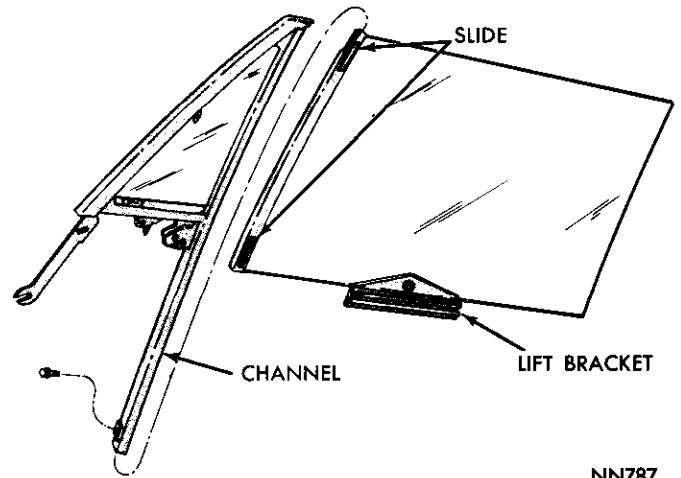

Fig. 45—Door and Vent Glass Assembly—Hardtop—Convertible
- (1) Install lift bracket assembly and weatherstrip and guide on the door glass.
- (2) Assemble door glass and frame to vent wing division bar (Figs. 45 and 46).
- (3) Lubricate slide area of lift bracket guide.
- (4) With regulator in down position, install door glass and vent wing assembly into door and position vent wing pivot swivel into regulator assembly.
- (5) Position glass lift bracket on regulator arm and move glass rearward into rear run channel.
- (6) Position vent wing leg adjusting stud into slot in hinge pillar support.
- (7) Install vent wing swivel to regulator screw.
- (8) Install vent wing to belt line screws.